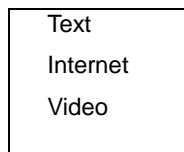

Figure 4 English OSD High bright Mode
- **BRIGHT MODE SELECTION KEY:** Press this key, the menu will be displayed as follows, OSD bright mode selection menu is shown in Figure 4, and you can select languages in the LANGUAGE sub-menu to switch between Chinese and English. Under non-OSD, press bright mode Selection key to set the current brightness mode: the default setting is Text mode. When this menu is displayed, press bright mode selection key to switch into Text, Internet and Video modes. In the case of not pressing the MENU, this high bright mode menu will disappear in 5 seconds automatically.